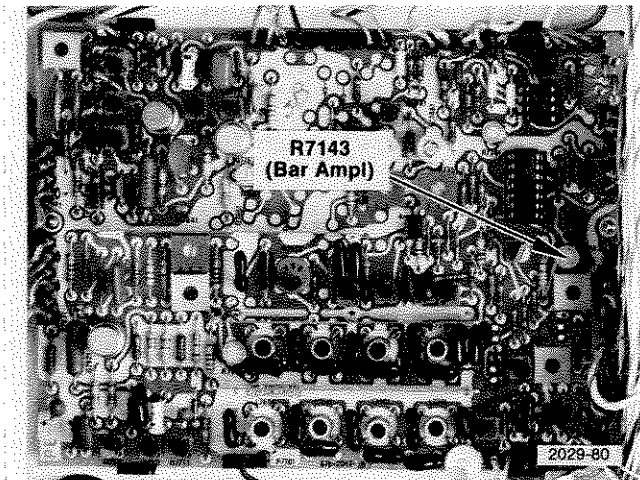

Fig. 3-12. Output Amplifier circuit board showing location of Bar adjustment.
**ADJUST**—R7143 (Bar Amplitude), see Fig. 3-12, for the amplitude at the center portion of the Bar to be exactly 714.3 mV (100 IRE).